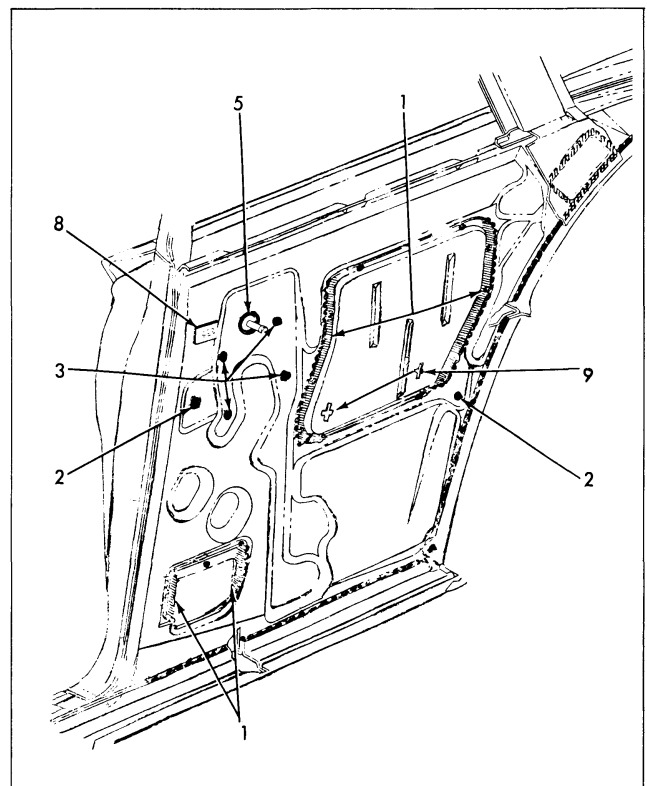

Fig. 4-9 Inner Panel Sealing - 11 Style Manual
- 11 style (Manual) - Figure 4-9